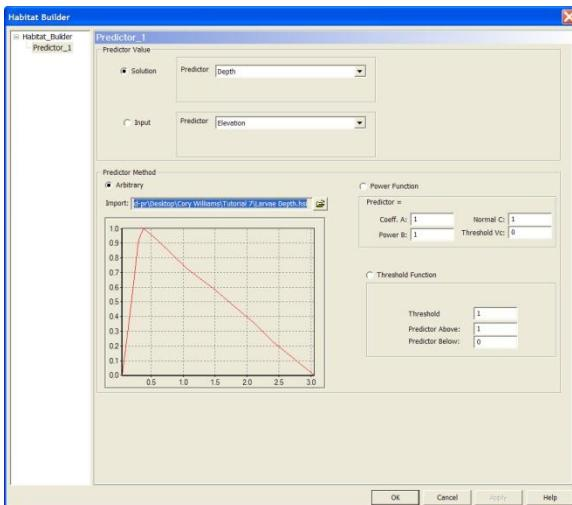

Figure 3.2.7e Depth predictor for the larval Colorado pikeminnow
- c. The imported HSI curve should look like Figure 3.2.7e